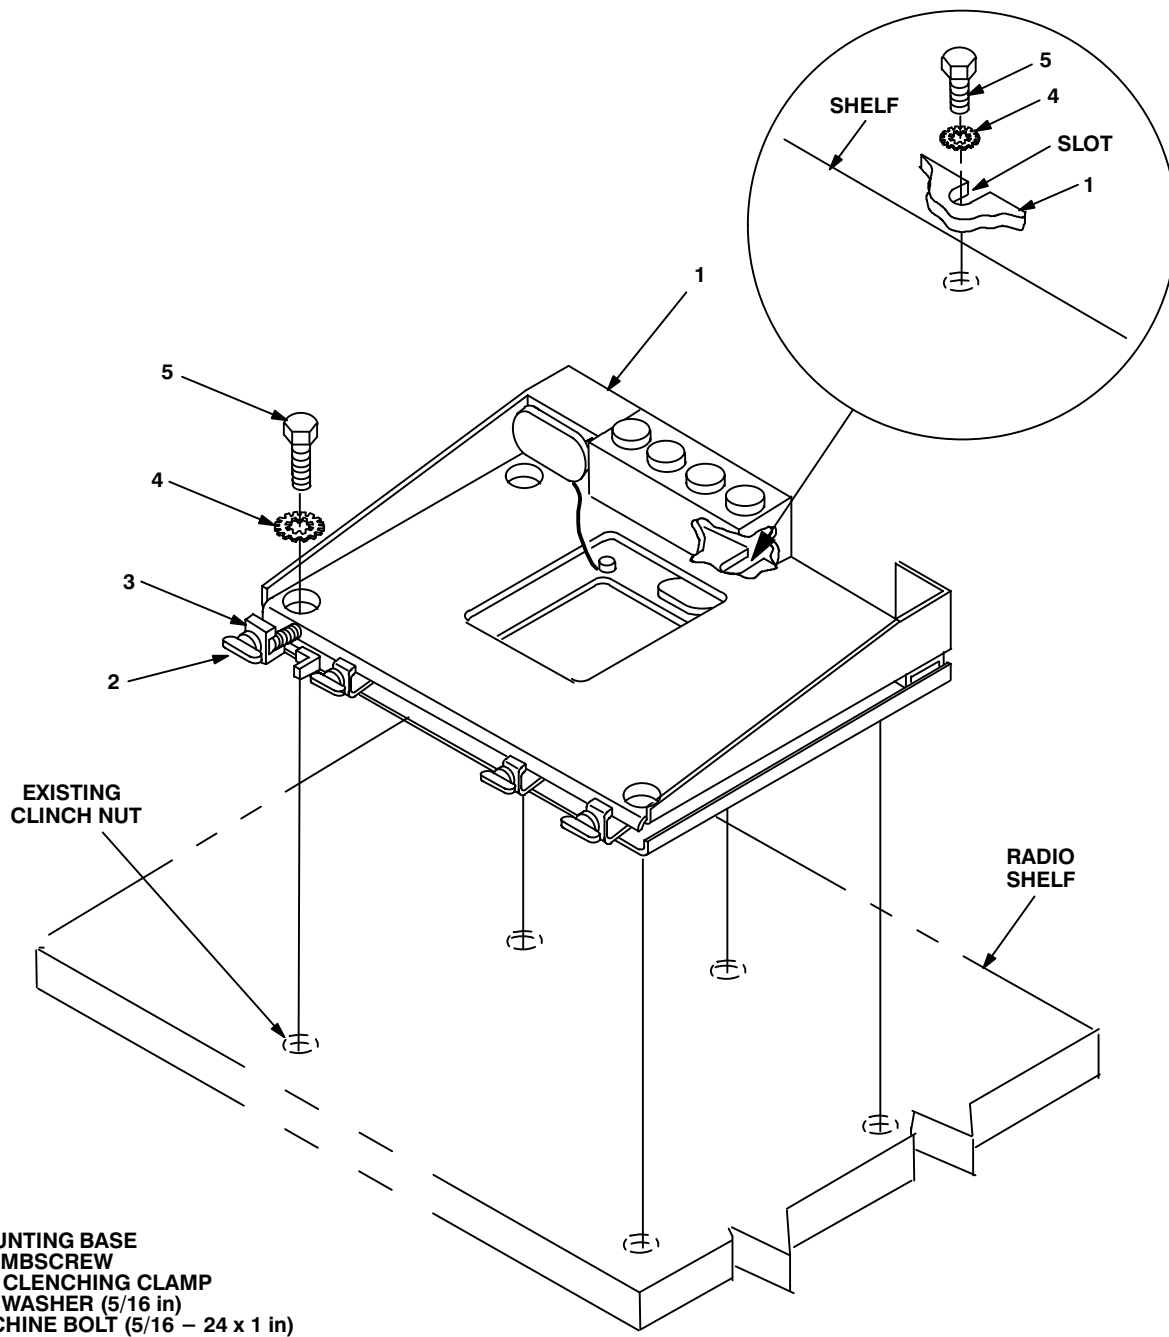

Figure 5-4. Mounting Base Installation: Radio Shelf
5.2 Installation of Mounting Base, Electrical Equipment MT-6352/VRC (mounting base). Remove and retain attaching bag of 5/16 in mounting hardware for installation. To insure good electrical grounding, any rust, corrosion or paint around mounting holes in radio shelf should be removed before installing the mounting base. See figure 5-4 and perform the following steps.